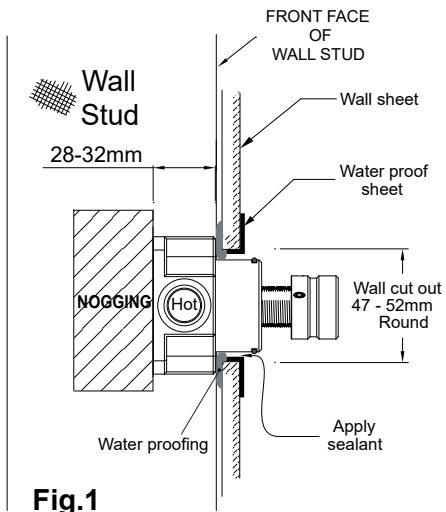

Fig.1
- Set a Nogging between 28 - 32mm back from the face of the wall stud. (see Fig. 1).
- Water Proof around the mixer. (see Fig. 1).
- Prior to fit off ensure the correct size cut out around the Mixer has been achieved.(see Fig.1)